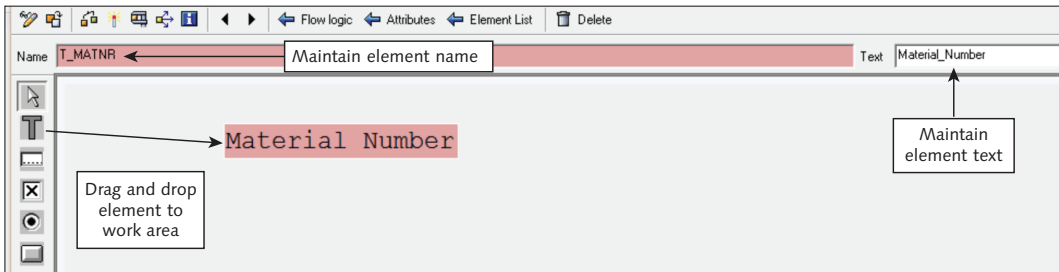

Figure 12.19 Creating a Text Field
1. Select the element from the element palette and drag it to the work area, as shown in Figure 12.19.